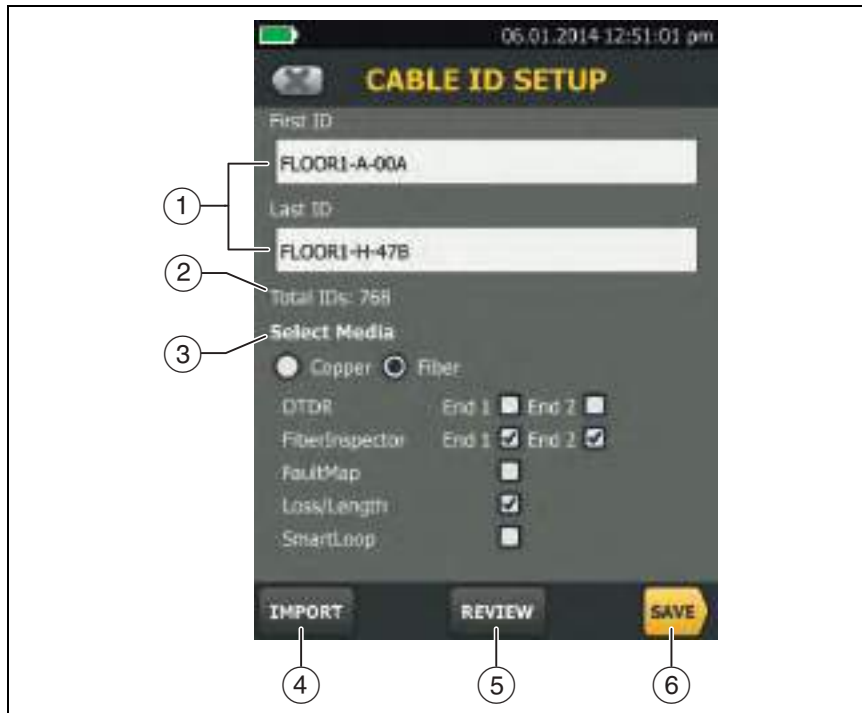

Figure 128. CABLE ID SETUP Screen (after you enter the first and last IDs)
- 5 On the **PROJECT** screen, tap the **NEW ID SET** button to make one or more sets of cable IDs for the project. See the **CABLE ID SETUP** screen in Figure 128 on page 341.
To add a set of IDs to the project, tap **NEW ID SET**. See Figure 128.
To see the **CABLE ID SETUP** screen, tap the **PROJECT** panel on the home screen, then tap **NEW ID SET** on the **PROJECT** screen. See Figure 128 on page 341.